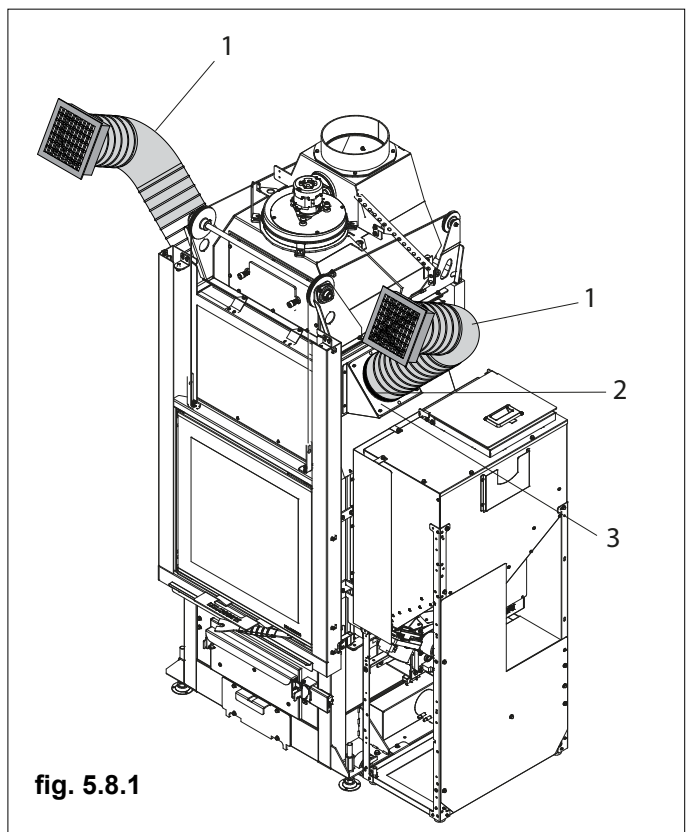

fig. 5.8.1
Attach the pipe (1) to the collars (3) with the clamps (2) (Fig. 5.8.1).